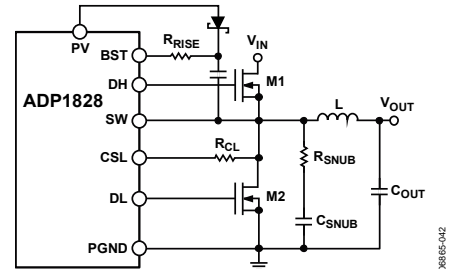

Figure 41. Application Circuit with a Snubber
In any high speed step-down regulator, high frequency noise (generally in the range of 50 MHz to 100 MHz) and voltage overshoot are always present at the gate, the switch node (SW), and the drains of the external MOSFETs. The high frequency noise and overshoot are caused by the parasitic capacitance,  $C_{gd}$ , of the external MOSFET and the parasitic inductance of the gate trace and the packages of the MOSFETs. When the high current is switched, electromagnetic interference (EMI) is generated, which can affect the operation of the surrounding circuits. To reduce voltage ringing at the drain of the MOSFET, an RC snubber can be added between SW and PGND, as illustrated in Figure 41. In most applications,  $R_{SNUB}$  is about 2 Ω, and  $C_{SNUB}$  about 1.2 nF.  $R_{SNUB}$  and  $C_{SNUB}$  can be calculated using the following equations:
In most applications, a size 0805 component is sufficient. The use of the RC snubber reduces the overall efficiency, generally by an amount in the range of 0.1% to 0.5%. However, the RC snubber cannot reduce the voltage overshoot. A resistor, shown as  $R_{RISE}$  in Figure 41, at the BST pin can help to reduce overshoot and is generally between 1 Ω and 5 Ω.